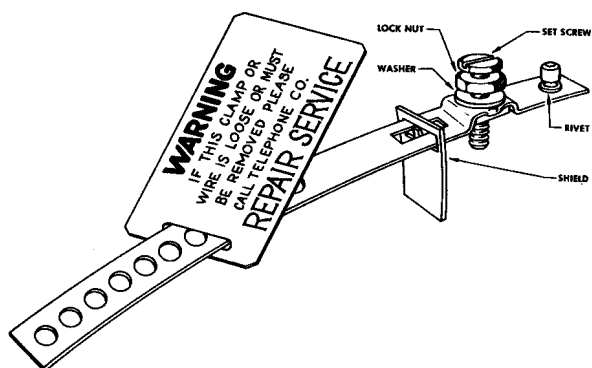

FIGURE 19. Station Ground Clamp
5.02 The station ground clamp, L ground clamp, GC166S0 clamp, 3844 clamp and split bolt connector are shown in Figures 19 through 23.